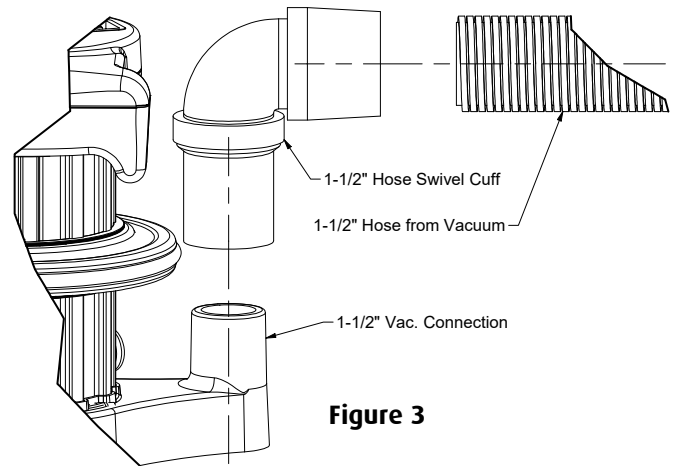

Figure 3
1. Install supplied 1-1/2" (40 mm) hose swivel cuff (Figure 3) by screwing cuff CCW onto hose.
2. Push swivel cuff onto base using a twisting motion (Figure 3).